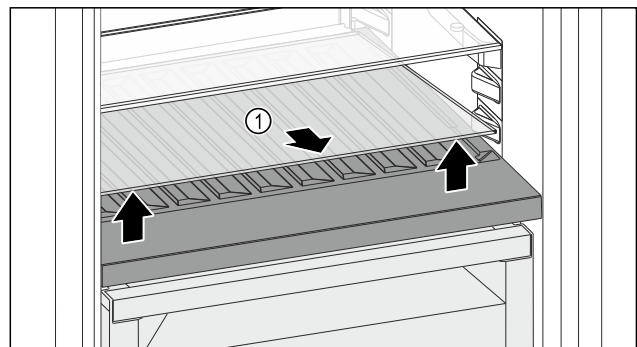

Fig. 144
- ▶ Lift the glass shelf Fig. 144 (1) at the front and remove.
- ▶ Store the glass shelf Fig. 144 (1) in a safe place outside the appliance.
- ▶ Insert the glass shelf (2) under the variable bottle rack.